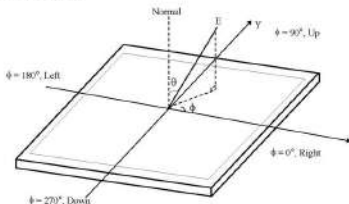

FIG. 5 Viewing angle
6. Viewing angle is the angle at which the contrast ratio is greater than 10. The angles are determined for the horizontal or x axis and the vertical or y axis with respect to the z axis which is normal to the LCD surface. For more information see FIG 5.